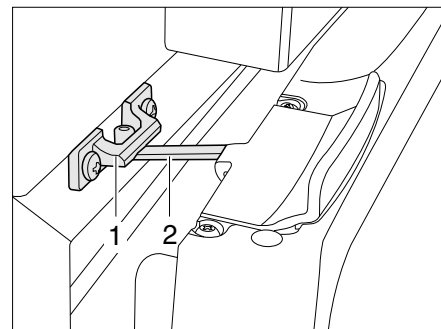

Fig. 343 Refrigerator door in ventilation position (Thetford)
- Open the lock (Fig. 343,2) and snap it into the locking catch (Fig. 343,1). The refrigerator door will then stay slightly open.